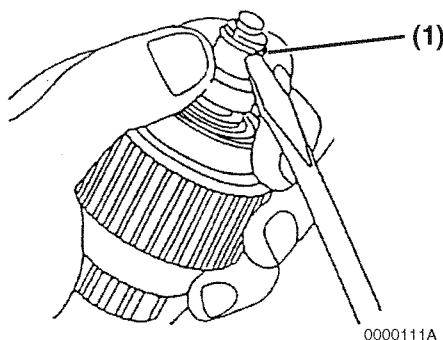

Figure 11-10
11. Using a flat-blade screwdriver, remove the retaining ring (**Figure 11-10, (1)**) from the shaft of the pinion.